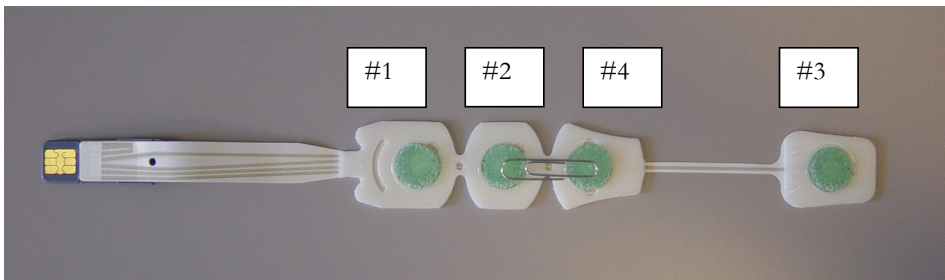

Figure 11 - Connecting electrodes #2 and #4.
2. Place the end of a small paper clip at the midpoint of electrode #2 then lay it across electrode #4. (See Figure 11.)